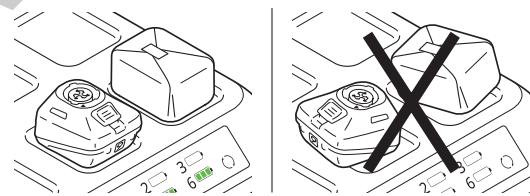

Figure 5 – Ensure correct battery placement
- Make sure the flat bottom of the battery pack is completely situated within the charger bay and fully in contact with the charger surface (Figure 5).